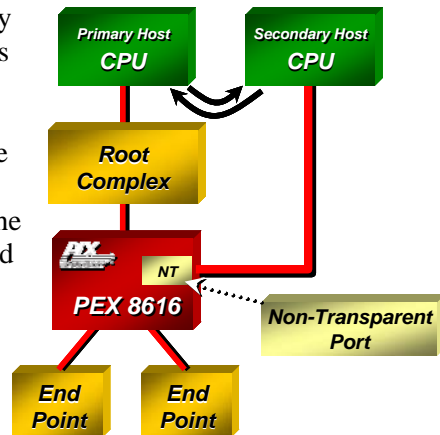

Figure 2. Non-Transparent Port
The PEX 8616 product supports a **Non-Transparent (NT) Port**, which enables the implementation of **multi-host systems** and **intelligent I/O modules** in storage, communications, and blade server applications. The NT port allows systems to isolate host memory domains by presenting the processor subsystem as an endpoint rather than another memory system. Base address registers are used to translate addresses; doorbell registers are used to send interrupts between the address domains; and scratchpad registers (accessible by both CPUs) allow inter-processor communication (see Figure 2).